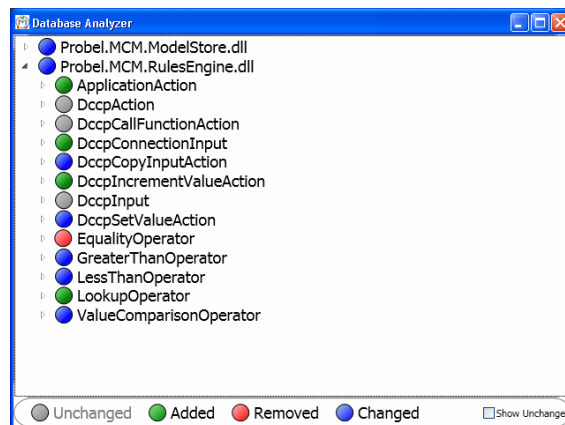

Figure 58 Database Analyzer
- 8. To view the differences between the databases, click the  button. The Database Analyzer displays, indicating the parts of the database that will change when the database is updated, see Figure 58